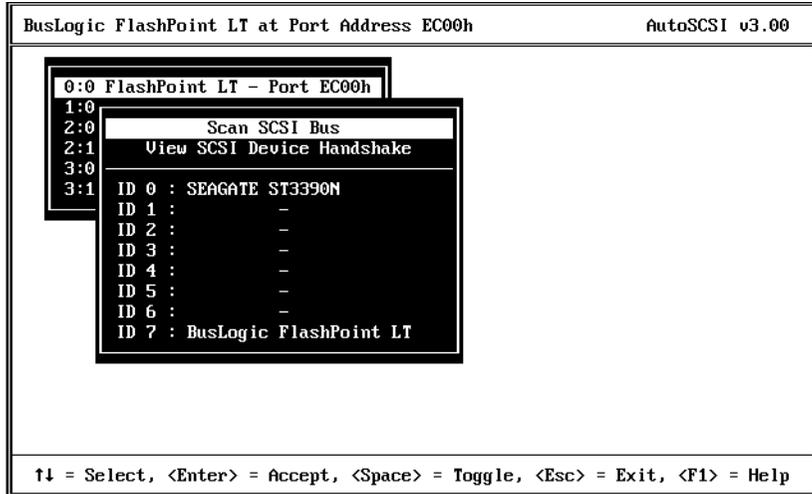

Figure 3-13. Scanned Bus Display
2. When the scan is complete, the SCSI Device window updates to show the result of the SCSI bus scan (see Figure 3-13).